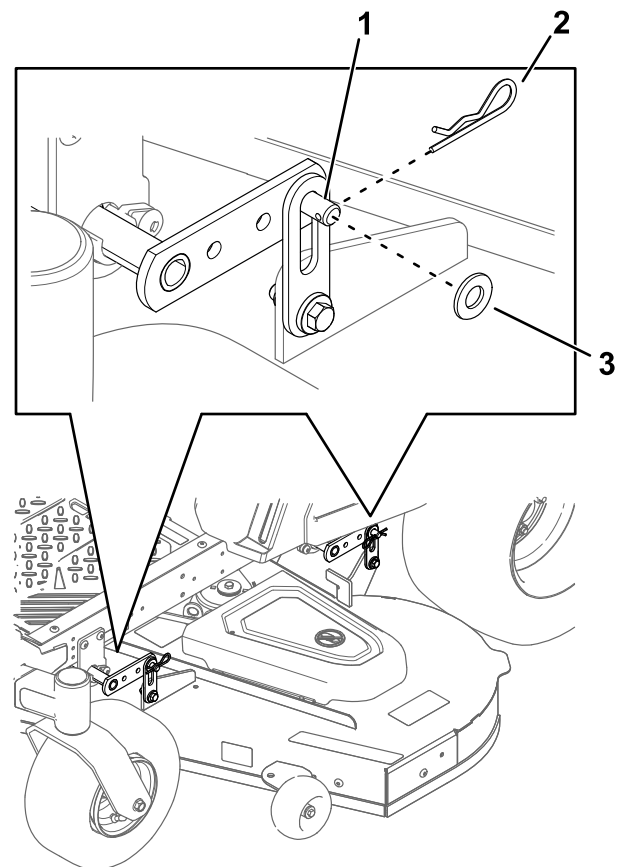

Figure 62
- At all 4 corners of the deck, remove the hairpin cotter and washer from the deck pin (Figure 62).
6. Lift the rear of the mower deck and attach the rear deck hangers to the rear deck pins (Figure 62).
7. Attach the front deck hangers to the front deck pins (Figure 62).
8. Secure the deck pins with the hairpin cotters and washers removed previously (Figure 62).